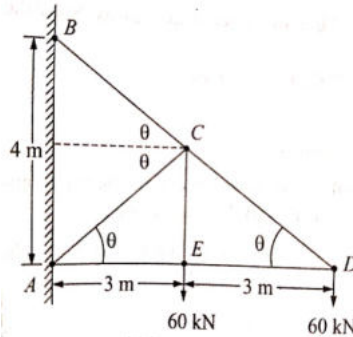

Figure 5.
6. Evaluate the member forces of the truss shown in figure 5, by method of tension coefficient. [14M]